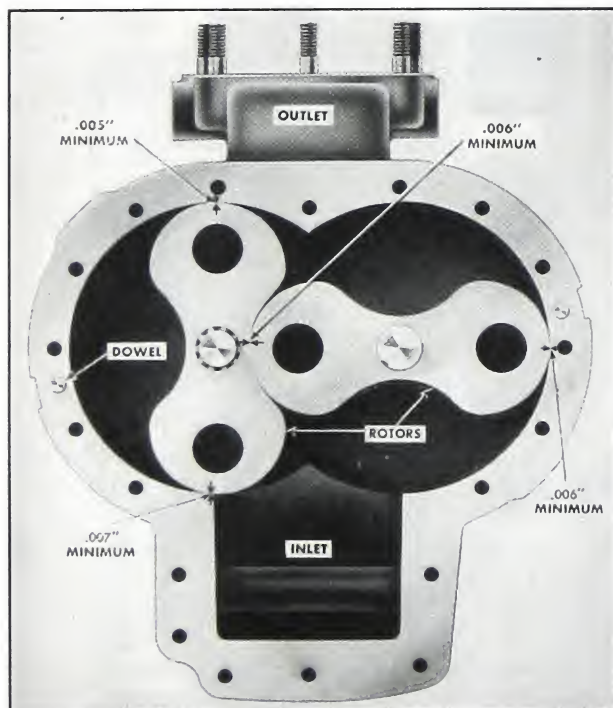

Fig. 10-11. Supercharger clearances—minimum
13. With feeler gages inserted through the inlet and outlet ports, check the clearance between the rotor lobes and the housing bore. This clearance should be .005 minimum on the *outlet* side and .007 minimum on the *inlet* side. The clearance between the rotors when they are perpendicular to each other should be .006 minimum. See Fig. 10-11.